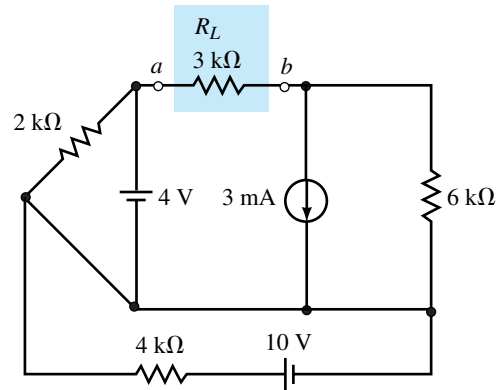

FIGURE 9–98
25. Find the Norton equivalent circuit external to R_L in the circuit of Figure 9–81. Use the equivalent circuit to find I_L for the circuit.
26. Repeat Problem 25 for the circuit of Figure 9–82.